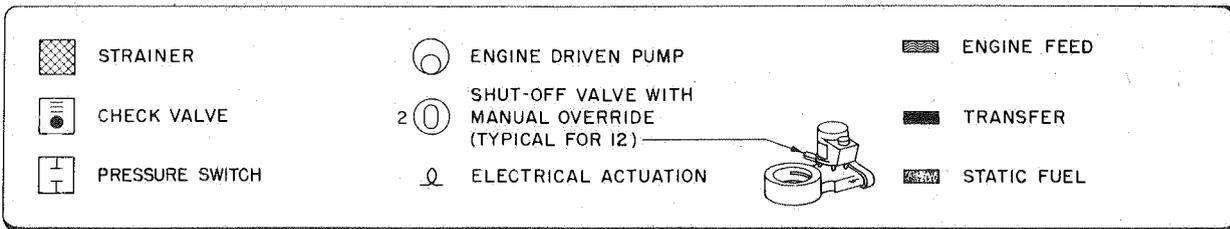

Figure 7-1. Fuel Flow Diagram - Transfer
**FUEL TRANSFER.** (See figure 7-1.) Fuel can be transferred from any tank except the forward tank. Automatic transfer into the forward tank is described as part of the normal feed condition. Fuel is transferred into the aft or slip tank by the following procedure: